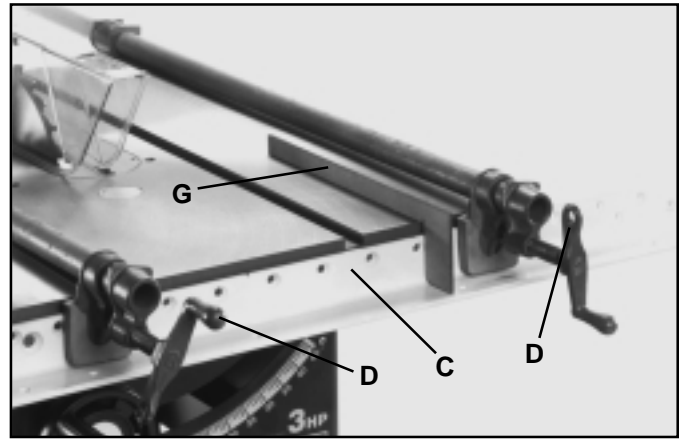
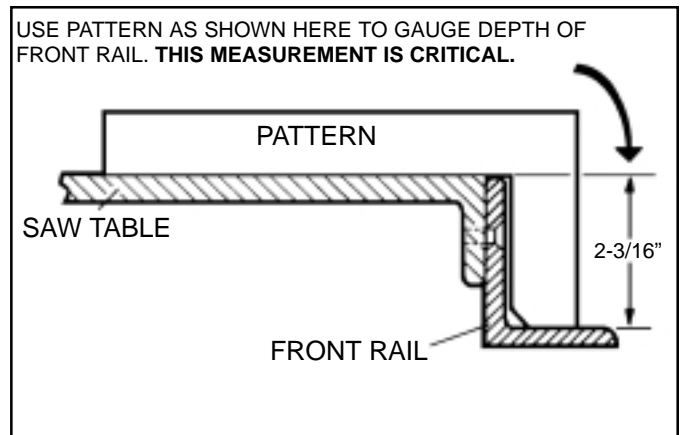

Fig. 8
Fig. 10
5. Using the template (G) Figures 8 and 9, check and adjust front rail (C) at both sides of the saw table as shown, to make sure rail (C) is level with table surface. **THIS MEASUREMENT IS CRITICAL. IF NECESSARY, ANOTHER PATTERN CAN BE MADE USING THE DIMENSION FOUND IN FIG. 10. IMPORTANT:** Template (G) Figs. 8 and 9, must be on the saw table when checking, not on extension wing.
6. When you are certain front rail (C) Figs. 8 and 9, is level with the table surface, securely tighten front rail mounting hardware (D).
7. When you are certain front rail (C) Figures 8 and 9, is level with table surface, securely tighten bar clamps (D).